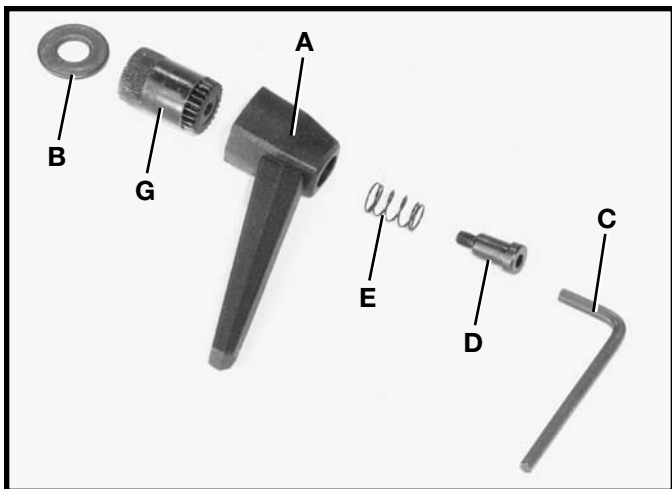

Fig. 13
5. Fig. 13 shows the table locking lever disassembled (removed in **STEP 1**). Item (B) is a M10 flat washer, (G) stud, (A) Locking Lever, (E) spring, (D) shoulder screw, and (C) 4mm hex wrench.